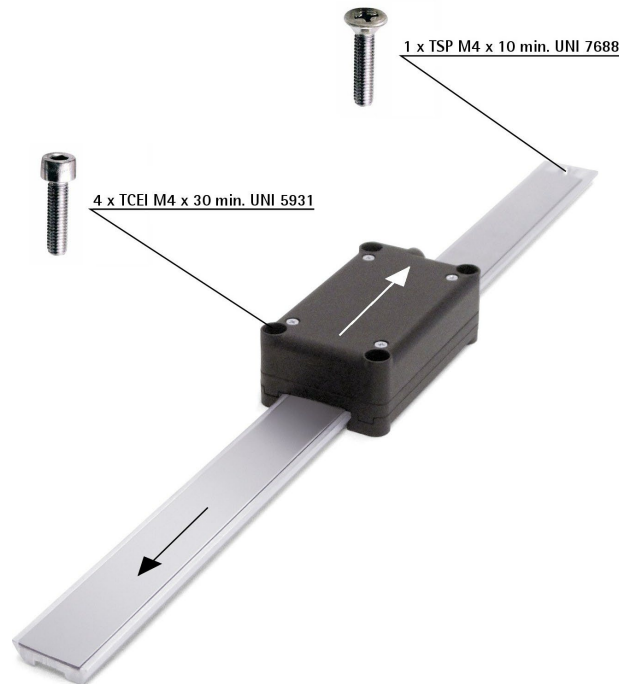

Figure 2
2.3 Sensor (Figure 2)
2.4 Profile of the magnetic tape (Figure 2)
2.6 Standard counting direction (Figure 2)
The standard counting direction (A channel leads B channel) is achieved when the sensor moves on the tape according to the white arrow shown in Figure 2; or, on the contrary, when the tape moves according to the black arrow shown in Figure 2.
3.5.1 Standard counting direction (Figure 2)